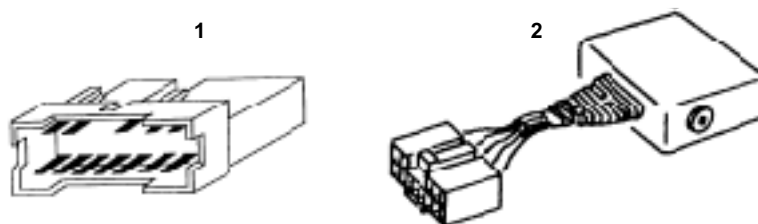

Figure 5-3 Connector and adapter for most OBD-I vehicles
- Figure 5-3—Engine and transmission codes for most OBD-I vehicles after 1988